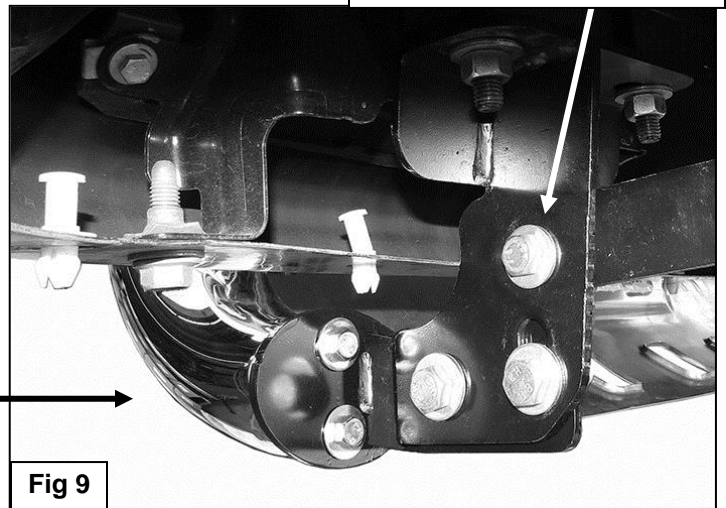
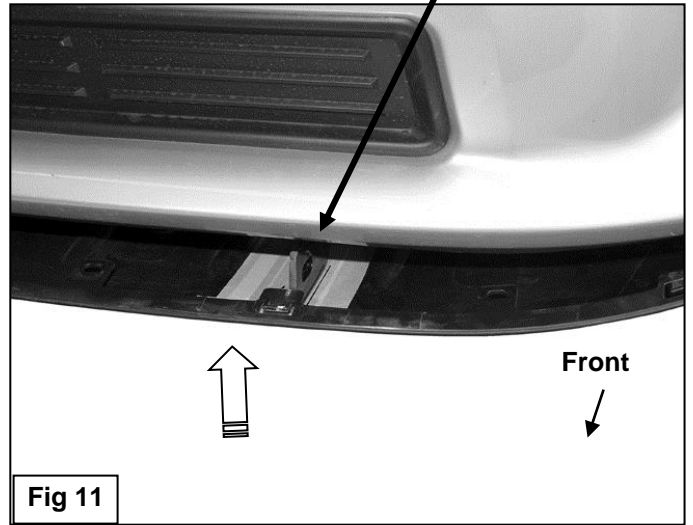

Fig 9
Fig 11
4. Next, select (1) Tube Mounting Bracket, **(Figure 8)**. Bolt the Bracket to the end of the Bull Bar with (2) 8mm x 35mm Hex Bolts, (2) 8mm Lock Washers and (2) 8mm Flat Washers, **(Figure 9)**. Leave hardware loose at this time. Repeat this **Step** to install the passenger side Tube Bracket.
5. With help, position the Bull Bar with Tube Brackets up to the inside of the Mounting Brackets. Use the included (4) 12-1.75mm x 35mm Hex Bolts, (8) 12mm Flat Washers, (4) 12mm Lock Washers and (4) 12mm Hex Nuts to attach the Tube Brackets to the Mounting Brackets, **(Figures 9 & 10)**. **NOTE:** On vehicles with tow hooks, insert the 12mm rear Hex Bolt through the rear hole in the Mounting Bracket, the Tube Bracket in the middle and out through the flat end of the Support Bracket, **(Figure 7)**. Do not tighten hardware at this time.
6. Stand back from the vehicle and check to see that the Bull Bar is centered and level on the vehicle and adjust as necessary. Tighten only the hardware securing the Mounting Brackets to the vehicle first. Next tighten only the (4) 8mm Hex Bolts securing the Tube Brackets to the Bull Bar as described in **Step 4**. Do not tighten the 12mm hardware attaching the Tube Brackets to the Mounting Brackets. Remove the Bull Bar with Tube Brackets attached.
7. Hold the splash guard up to the bumper cover and align it with the mounting points, **(Figure 11)**. Mark the location of the Mounting Brackets onto the back of the splash guard, **(Figures 11—13)**. Cut an approximately 1" wide by 4" long slot in the splash guard, **(Figure 13)**. **NOTE:** The size of the slot is an estimate only and may vary due to different factory designs for the splash guards and front bumper covers. Also, additional cutting may be required to clear the Support Bracket on vehicles equipped with tow hooks. **IMPORTANT:** To avoid weakening the splash guard, do not cut the slot any larger than necessary. Do not cut through the front or back edges of the cover, **(Figure 13)**. Make several small cuts first and check the fit often for a clean installation.